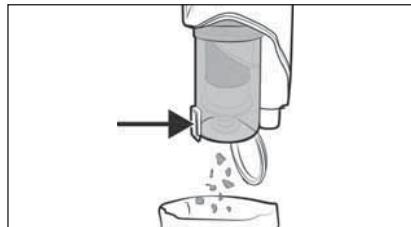

Fig. 18
- 1) Hold the dust container 7 in a waste bin and press the release button for the dirt container lid 8. The dust container lid 9 opens and the contents are emptied into the waste bin (see Fig. 18). Then close the dust container lid 9.